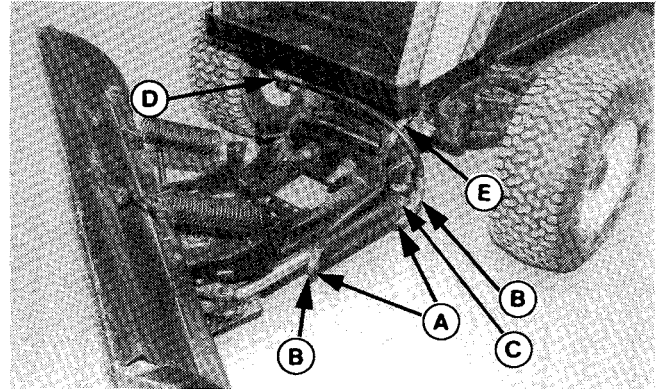

Figure 12.
1. Position the cylinder as shown in Figure 12 with rod toward dozer blade.